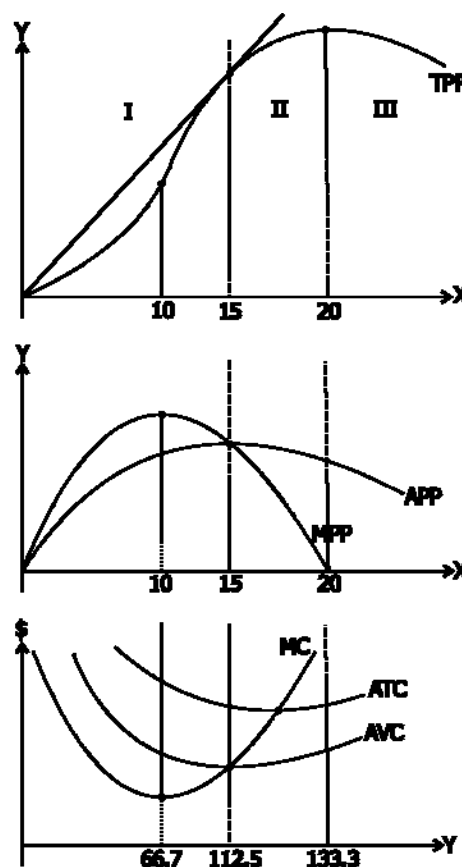

Figure 2.2 Production and Cost Functions
1. Marginal cost is important because it indicates how much the firm must pay (i.e. how much must be added to the total cost) in order to get **one more unit** of output – average costs cannot provide this information. A good manager must try to develop a way of measuring MC at each level of output. MC reflects and is a result of increasing and diminishing returns as can be seen by comparing it with the marginal product curve: increasing returns (as shown by the rising MPP) will be reflected in a decreasing marginal cost while diminishing returns (as shown by the falling MPP) will be reflected in an increasing marginal cost. This can be seen in Figure 2.2.
Figure 2.2 (on page 12) shows that AVC is the inverse of APP, just as MC is the inverse of MPP. It is therefore possible to determine some stages of production using the cost functions. The boundary between Stages I and II is where marginal cost is equal to average variable cost i.e. $MC=AVC$. As such Stage II begins when $MC=AVC$ and ends when output is at its maximum. In Figure 2.2 these limits are at 112.5 and 133.3 units of output. On the boundary of Stages II and III, $MPP=0$; the MC curve becomes vertical as it approaches the end of Stage II and is therefore undefined (i.e. has no value) at this level.